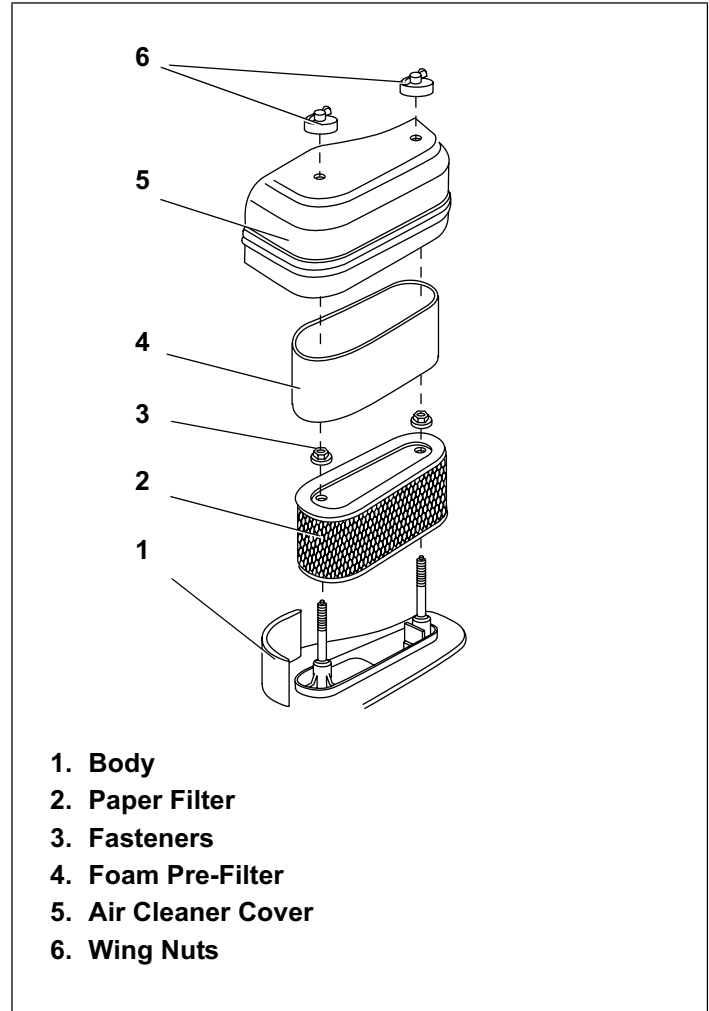

Figure 24. Air Cleaner Components
1. Remove wing nuts from air cleaner cover. See Figure 24.